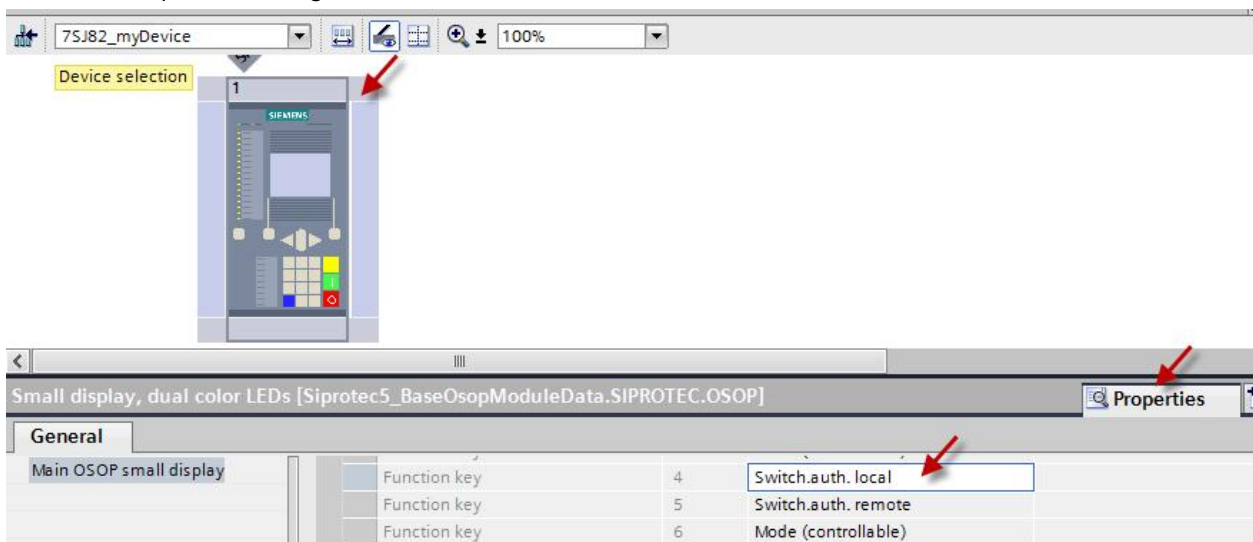

Figure 3: Labeling of function keys
- Open the editor „hardware and protocol and label the function keys in the related device menu. Select the operation panel and the “properties” (see figure 3). Label with the function keys with unique names e.g. „Switch.auth.local” and „Switch.auth. remote”.